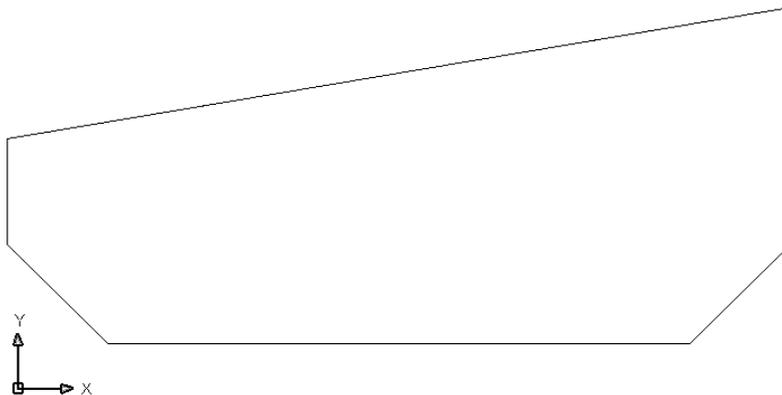

Figure 24-39: The completed solid. You can find this solid as part of Figure 24-1.
7. Save your drawing. It should look like Figure 24-39.